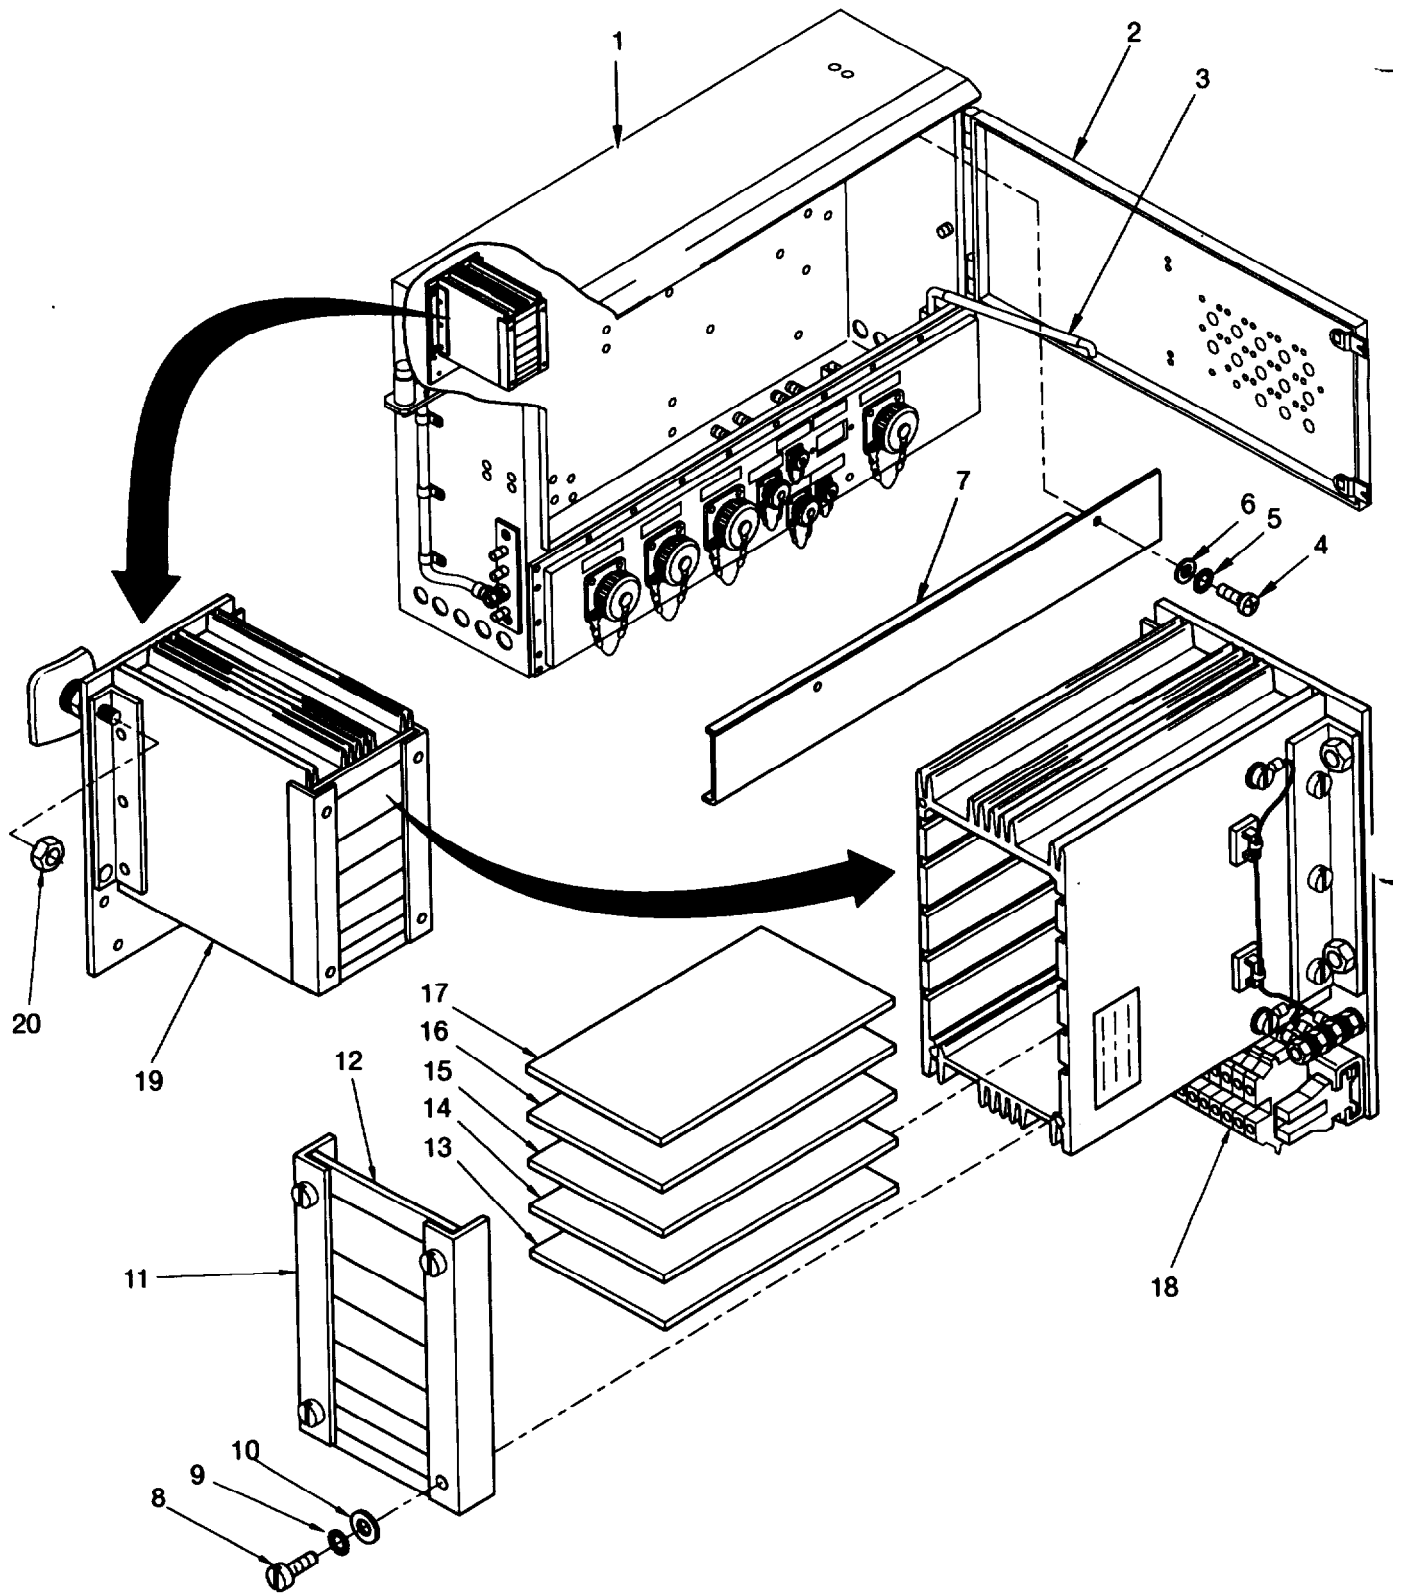

Figure 5-17 PDU Electronic Assembly N6.
- a. Remove stanchion by PDU (1, figure 5-17).
- b. Open access door (2) and secure with prop (3).
- d. Remove screws (4), serrated lock washers (5), washers (6), and protective cover (7).
- e. Unscrew screws (8), serrated lock washers (9), washers (10).
- f. Remove angle pieces (11), panel (12), and pull out boards (13,14,15, 16 and 17):
- a. Install PDU electronic assembly N6 (19) with four nuts (20).
- b. Install boards (13, 14, 15, 16 and 17) following to figure 5-17.